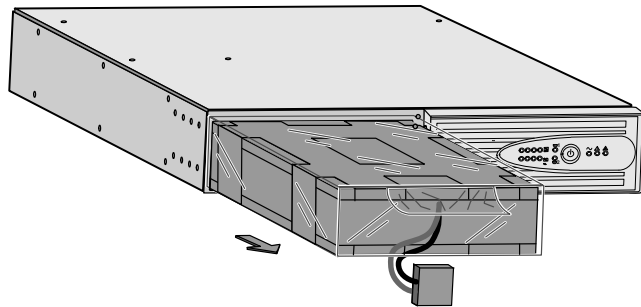

Figure 28. Removing the Battery Block
4. Pull the battery block out onto a flat, stable surface (see Figure 28).